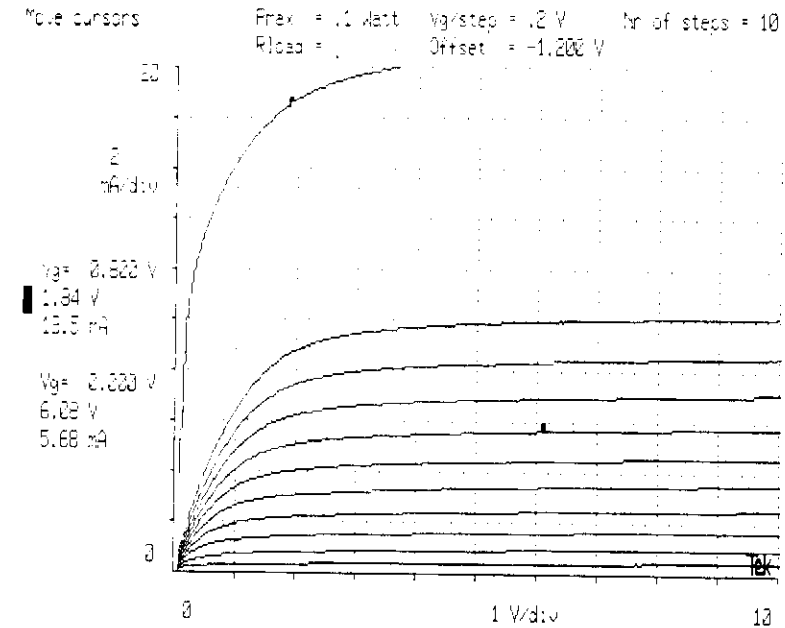

Figure 3-11: JFET Curves in Depletion and Enhancement Mode
Step 3. Press START and observe a set of curves as in Figure 3-11.
The curves above the curve $V_g = 0\text{ V}$ in Figure 3-11 represent the enhancement mode, the curves below $V_g = 0\text{ V}$ represent the depletion mode.